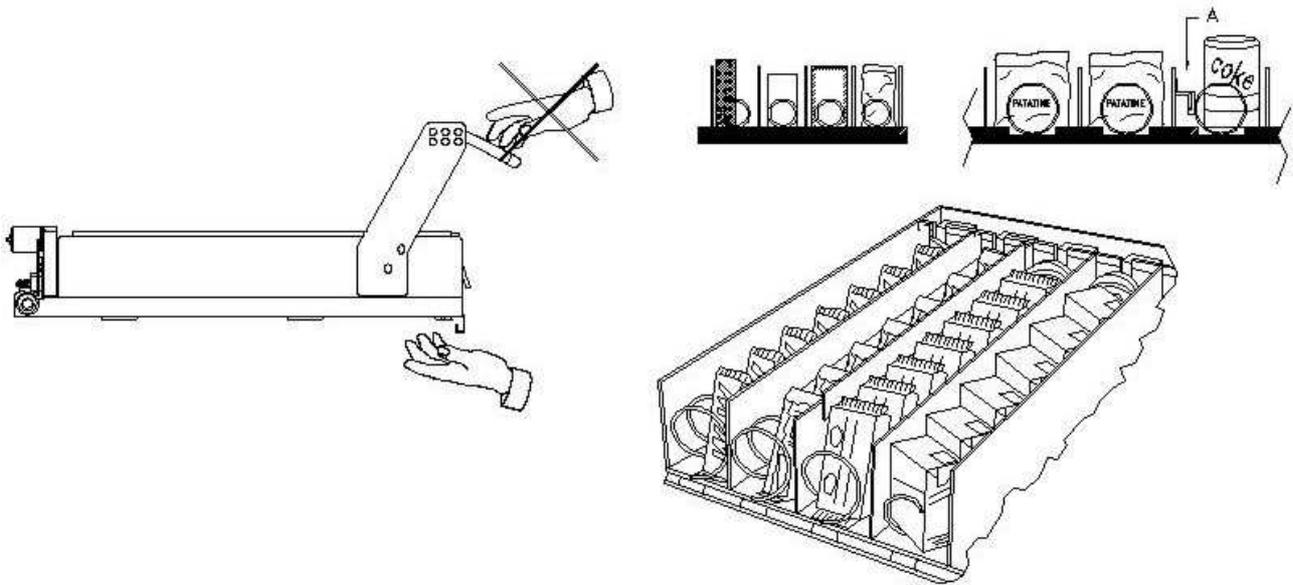

fig. 3
9.2 TRENnwÄNDE FÜR PRODUKTE IN DEN SCHUBLADEN (fig.3)